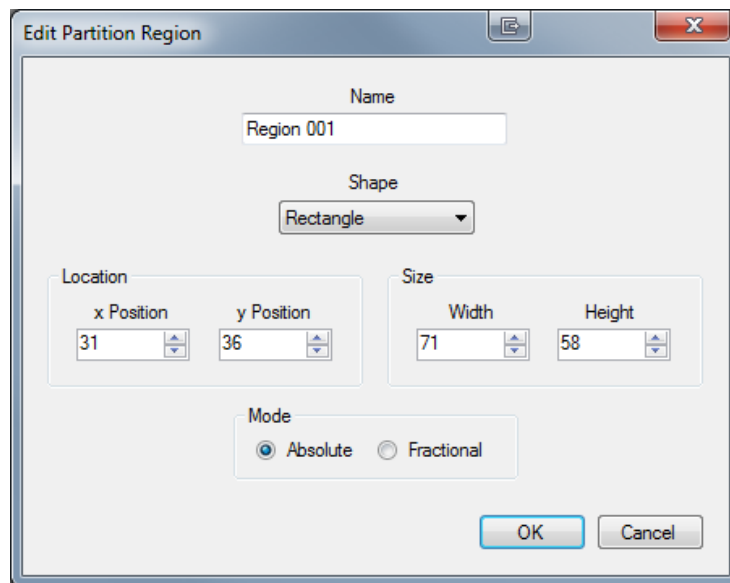

Figure 3.26 A Partition ROI Properties Window
4. Right-clicking inside any ROI and choosing **Edit...** allows the region name to be changed as well as the shape, location, size, and Mode of the domain (**Figure 3.26**). Click **OK** when complete.